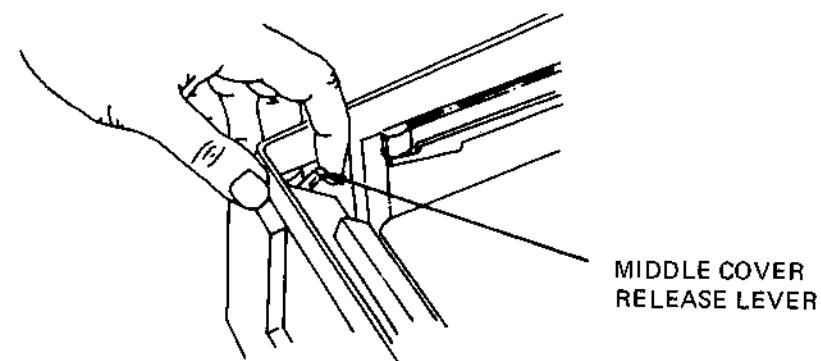

Figure 4-1 Middle Cover Lever (Left Side)
- d. Pull both the left and right levers inside the middle cover forward (see Figure 4-1).